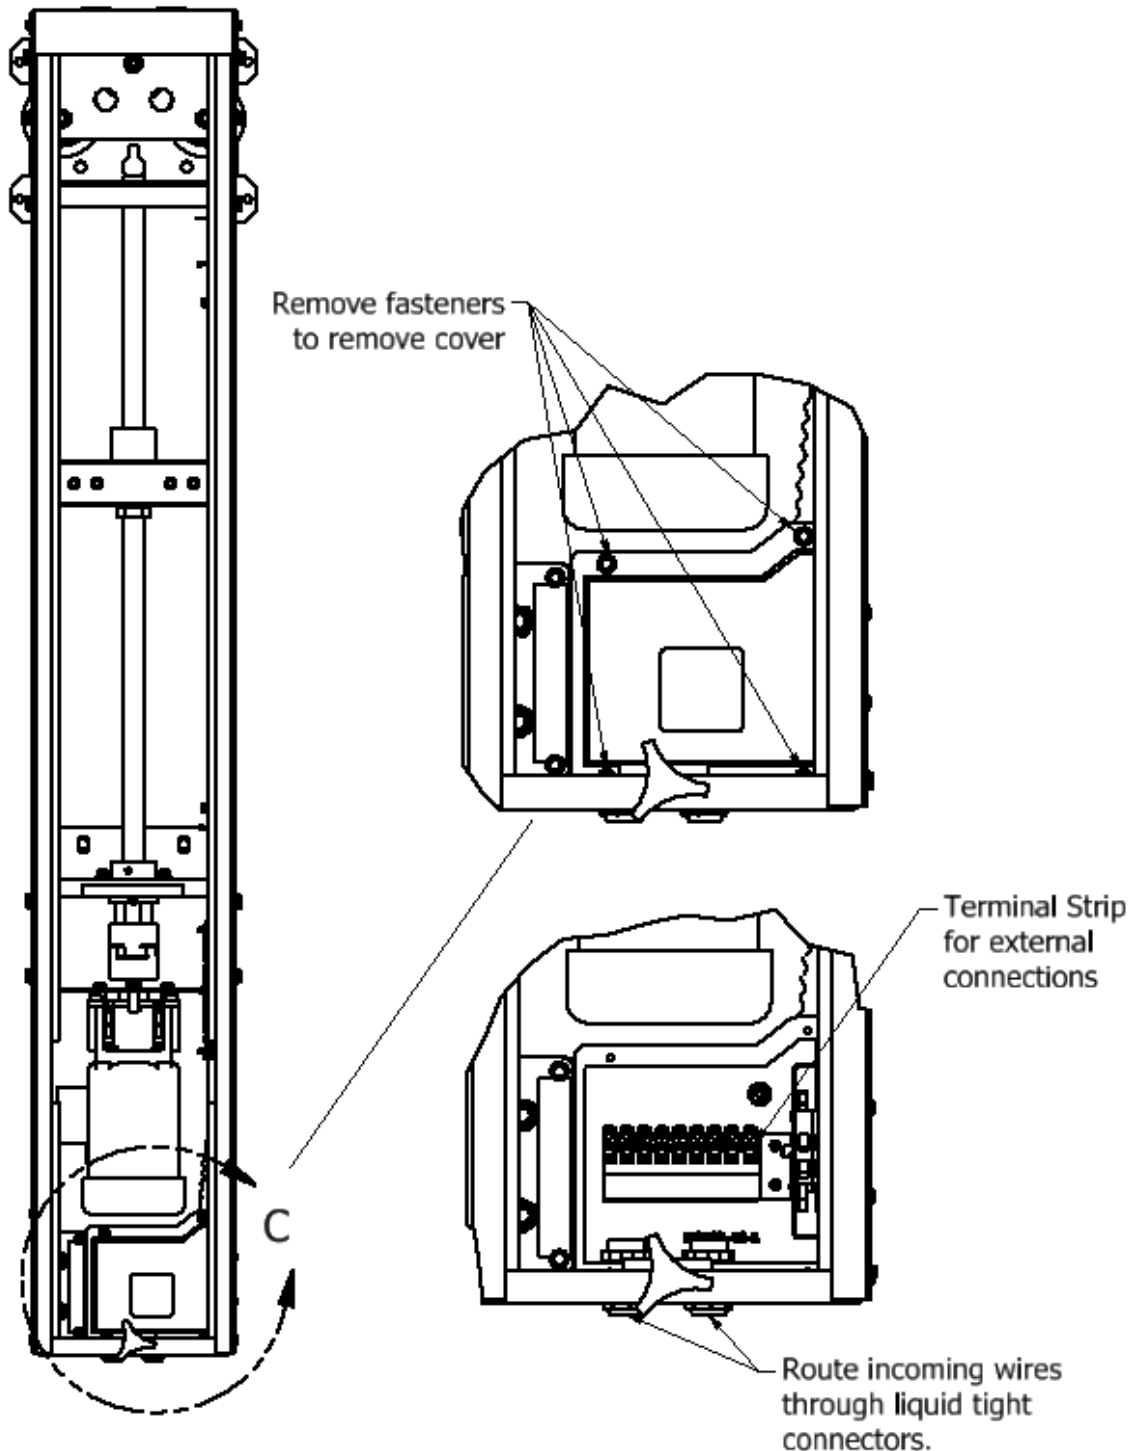

Figure 20
10. To make electrical connections, remove plastic enclosure cover per (Figure 20) by removing (4) fasteners and removing cover. Wiring should be routed through liquid tight connectors provided. Care should be taken to route wires in enclosure away from limit switch assembly to prevent wire damage or interference with limit switch operation.